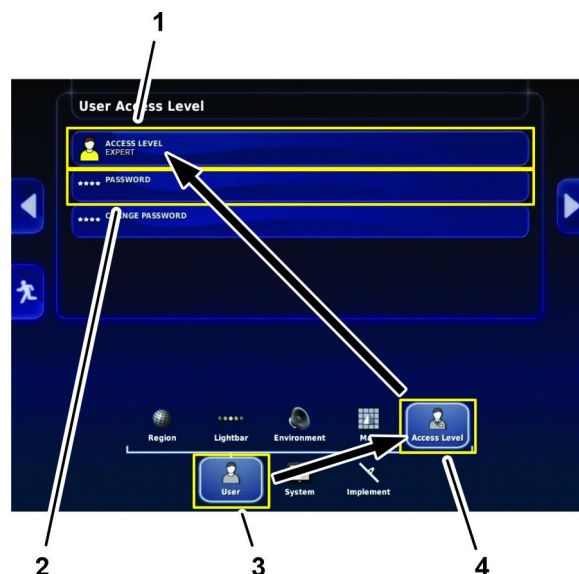

Figure 1
2. On the setup screen, press the USER icon and the ACCESS LEVEL icon (Figure 1).
3. In the user access level dialog box, press the ACCESS LEVEL icon, and in the drop-down menu, press the EXPERT icon (Figure 1).